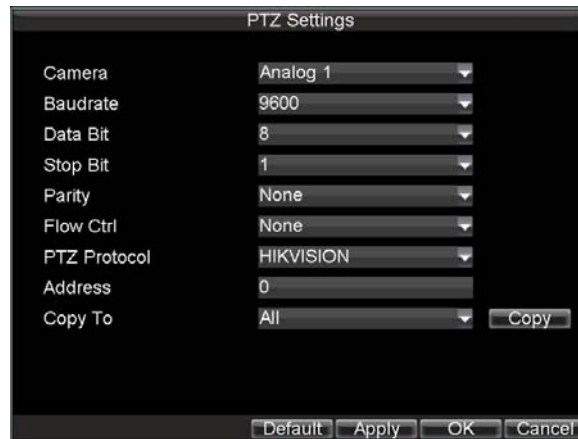

Figure2. PTZ Settings Menu
1. Click Menu > Settings > PTZ to enter the PTZ Settings menu, shown in Figure 2.